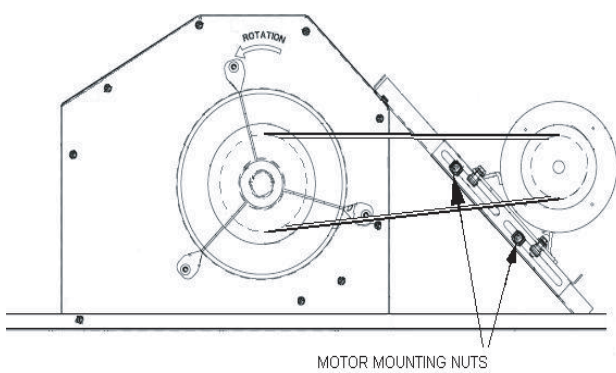

Fig. 47 – Belt Drive Motor Mounting
Tables 9 and 10 show fan rpm at motor pulley settings for the 50HE003-006 and 50HJ004-007 units. Tables 11 and 14 show maximum amp draw of belt-drive motor. Table 13 shows sound data. Refer to Tables 15-34 for performance data. See Table 35 for accessory static pressure drop. See Fig. 47 for the Humidi-MiZer™ system static pressure drops.
2. Loosen the belt by loosening the fan motor mounting nuts. (See Fig. 47.)